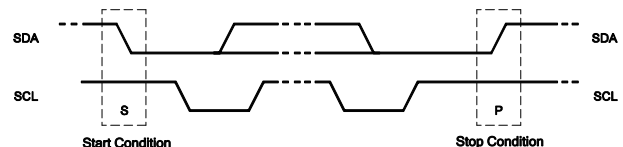

Figure 16: Start and Stop Conditions
The start (S) and stop (P) commands are signaled by the master device, which signifies the beginning and the end of the I2C transfer. A start command is defined as the SDA signal transitioning from high to low while the SCL signal is high. A stop command is defined as the SDA signal transitioning from low to high while the SCL signal is high (see Figure 16).